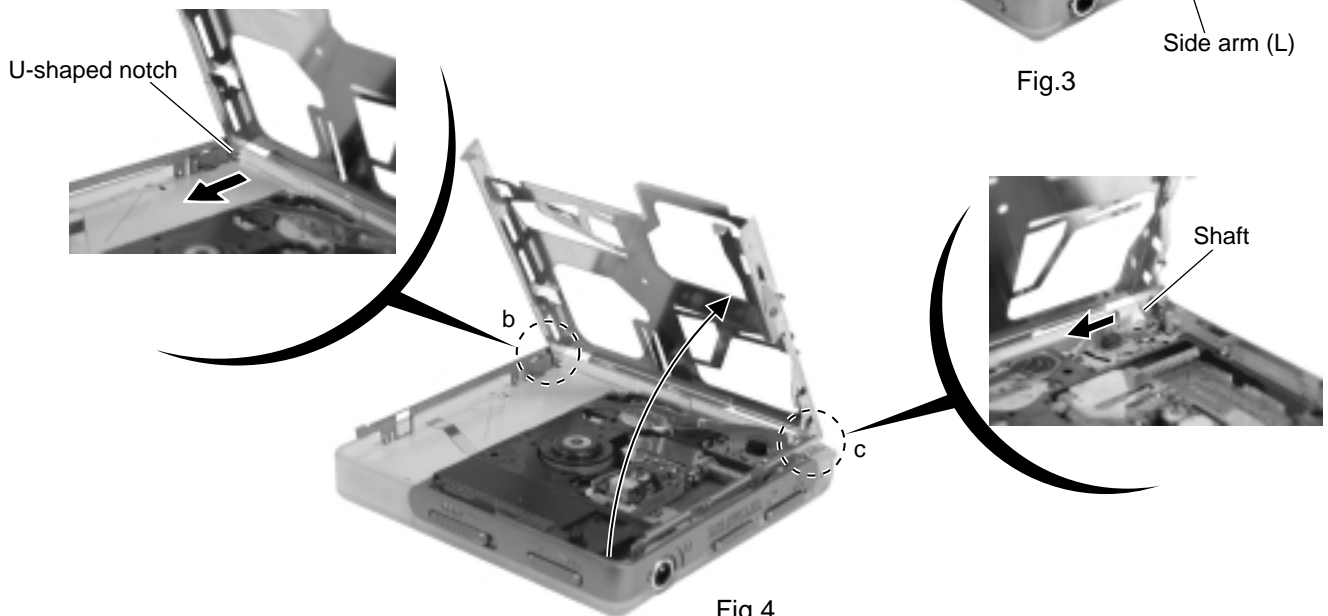

Fig.4
2. Pull the side arm (L) marked **a** outward, then remove. Open the holder assembly as shown in Fig.4.